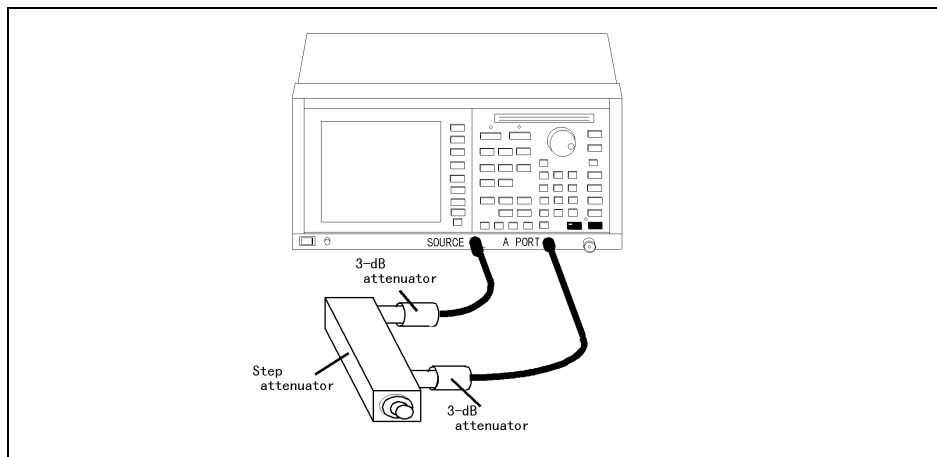

Figure 10-29 Connections for A PORT Measurement for Dynamic Level Accuracy
- (1) Connect two 3-dB attenuators, step attenuator using two RF cables between SOURCE and A PORT shown in Figure 10-29.